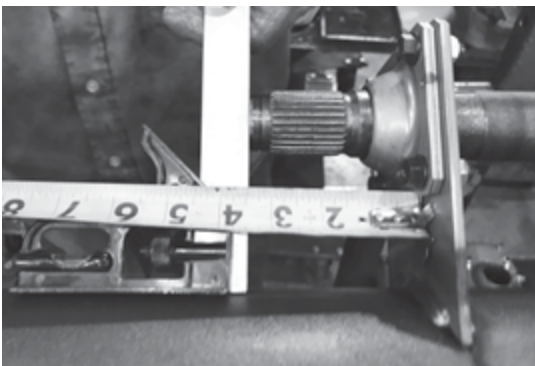

Figure 2: S-cam bracket assembly must be 3.5 inches (90 mm) from the end of the camshaft
3. **Position** replacement bracket on axle (Figure 2):
Position the S-cam bracket assembly laterally on the axle tube (Figure 2) so the inside surface of the S-cam bracket assembly is 3 1/2 inches (90 mm) from the end of the camshaft.